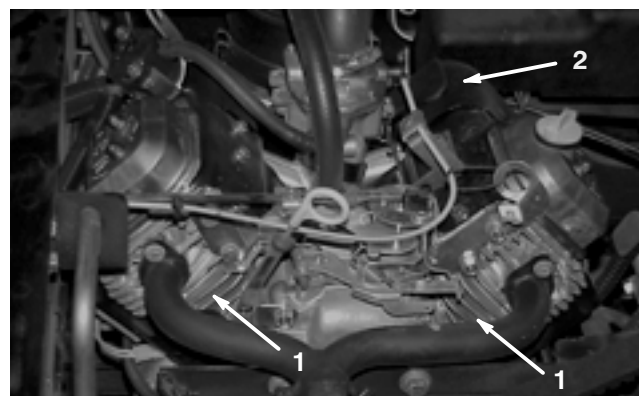

Figure 10
2. Clean cooling fins on both cylinder heads (Fig.10).